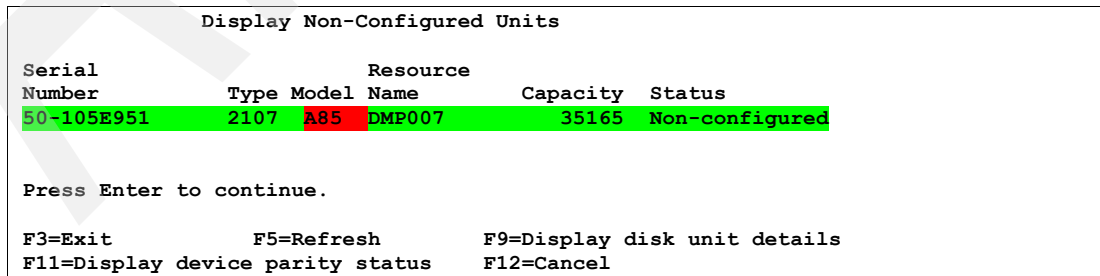

Figure 5-97 Display Non-Configured Units
17. Then, look at the previous load source unit with its unprotected status using the Display Non-Configured Units menu as shown in Figure 5-97.